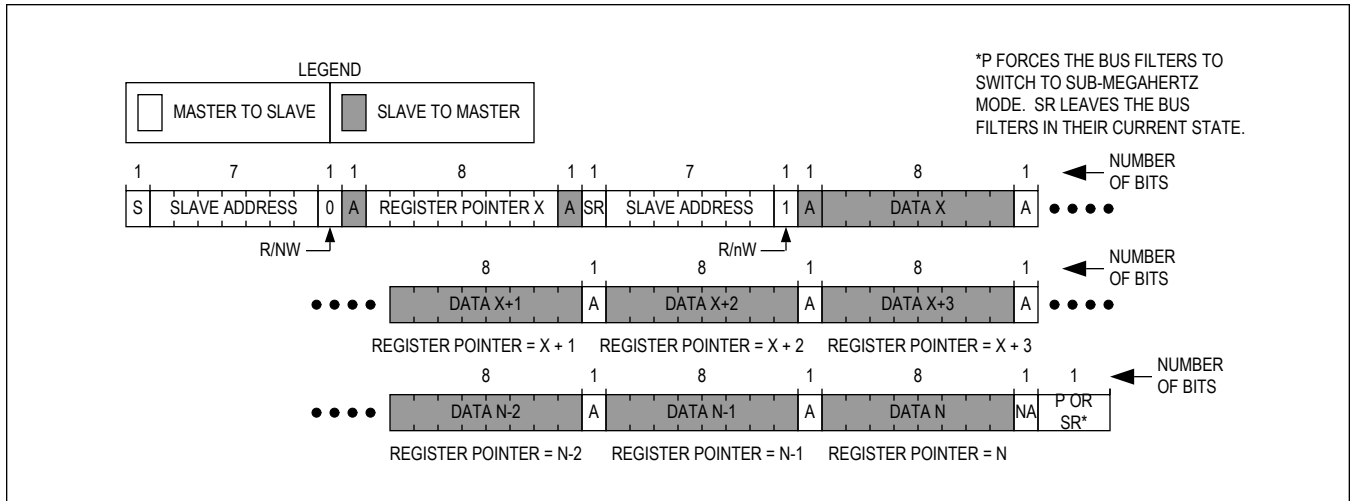

Figure 35. Reading Continuously from Sequential Registers X to N
Figure 35 shows the protocol for reading from sequential registers. This protocol is similar to the read byte protocol except the master issues an acknowledge to signal the slave that it wants more data: when the master has all the data it requires it issues a not acknowledge (nA) and a stop (P) to end the transmission.